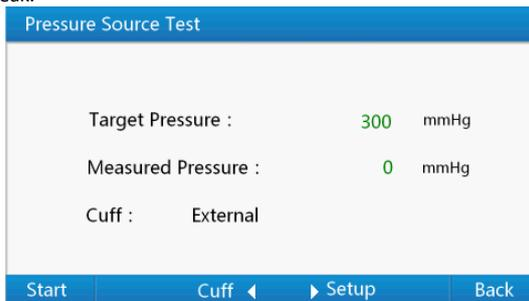

Figure 14 Pressure source test interface
- 1) Use up or down key in "Pressure Test Menu" to select "Pressure Source", then press "Enter Key "to "Pressure Source Test" interface shown as Figure 14. Pressing "Return Key "in this interface can get back to "Pressure Test Menu". As a shortcut, you can use the number key "3" to "Pressure Gauge Test" interface firstly, then press "Enter Key "to the "Pressure Source Test" interface.